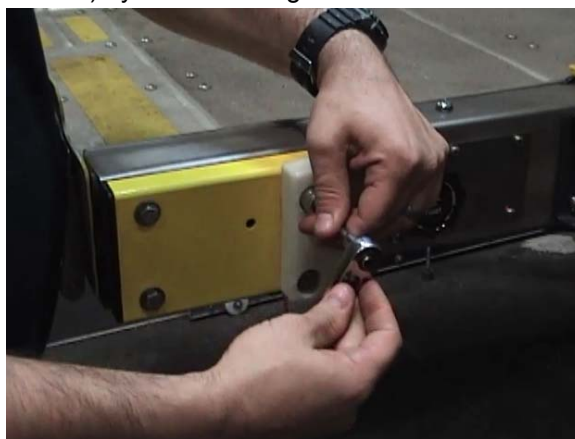

FIGURE 4-8: REMOVE RH GUIDE BLOCK AND RH PLATFORM ROLLSTOP SWITCH COVER
- 3) Refer to **Figure 4-8**. Gain access to right the rightside Rollstop Cover and Manual Release Cover Plate attached with (four screws) by first removing the white Guide Block and Platform Rollstop Switch Cover.